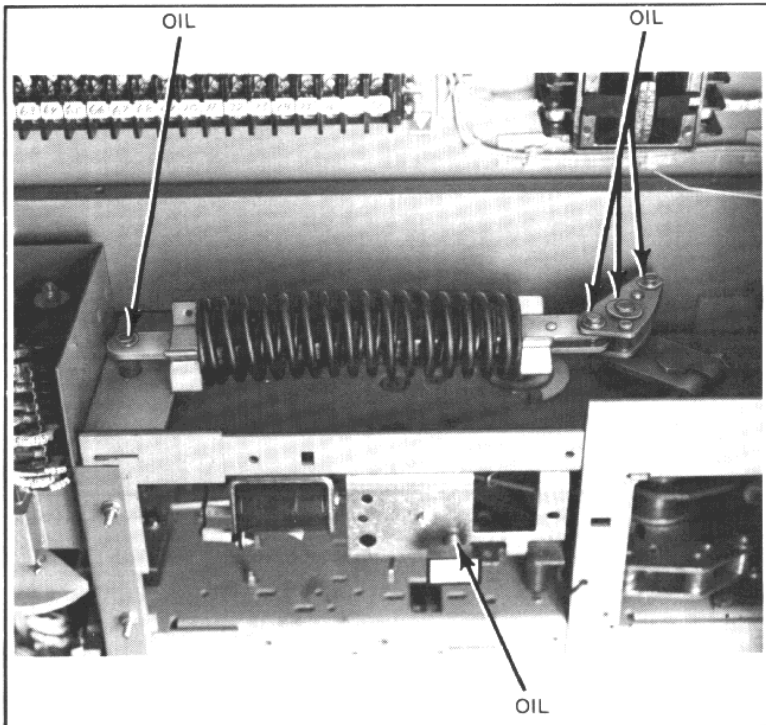

Figure 6
1. Linkages designated should be cleaned with trichlorethylene and lubricated lightly with oil. (Figures 6, 7)